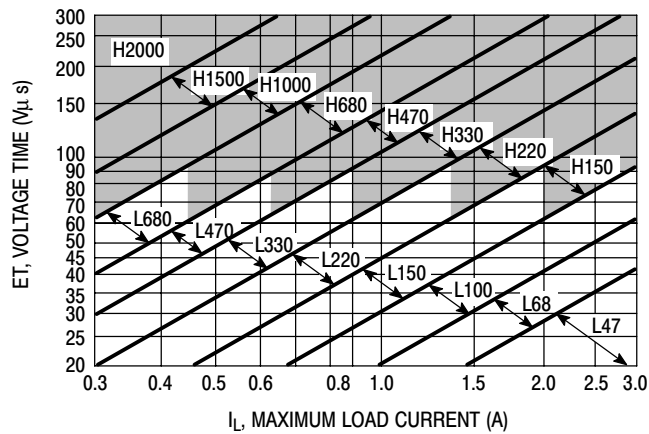

Figure 22. LM2576-ADJ
4. Inductor Selection (L1) A. Use the following formula to calculate the inductor Volt x microsecond [V x μs] constant: $E \times T = (V_{in} - V_{out}) \frac{V_{out}}{V_{in}} \times \frac{10^6}{F[\text{Hz}]} \text{ [V x } \mu\text{s]}$ B. Match the calculated E x T value with the corresponding number on the vertical axis of the Inductor Value Selection Guide shown in Figure 22. This E x T constant is a measure of the energy handling capability of an inductor and is dependent upon the type of core, the core area, the number of turns, and the duty cycle. C. Next step is to identify the inductance region intersected by the E x T value and the maximum load current value on the horizontal axis shown in Figure 25. D. From the inductor code, identify the inductor value. Then select an appropriate inductor from Table 2. The inductor chosen must be rated for a switching frequency of 52 kHz and for a current rating of $1.15 \times I_{Load}$. The inductor current rating can also be determined by calculating the inductor peak current: $I_{p(\text{max})} = I_{Load(\text{max})} + \frac{(V_{in} - V_{out}) t_{on}}{2L}$ where t_{on} is the “on” time of the power switch and $t_{on} = \frac{V_{out}}{V_{in}} \times \frac{1.0}{f_{osc}}$ For additional information about the inductor, see the inductor section in the “External Components” section of this data sheet.	4. Inductor Selection (L1) A. Calculate E x T [V x μs] constant: $E \times T = (25 - 8.0) \times \frac{8.0}{25} \times \frac{1000}{52} = 80 \text{ [V x } \mu\text{s]}$ B. E x T = 80 [V x μs] C. $I_{Load(\text{max})} = 2.5 \text{ A}$ Inductance Region = H150 D. Proper inductor value = 150 μH Choose the inductor from Table 2.